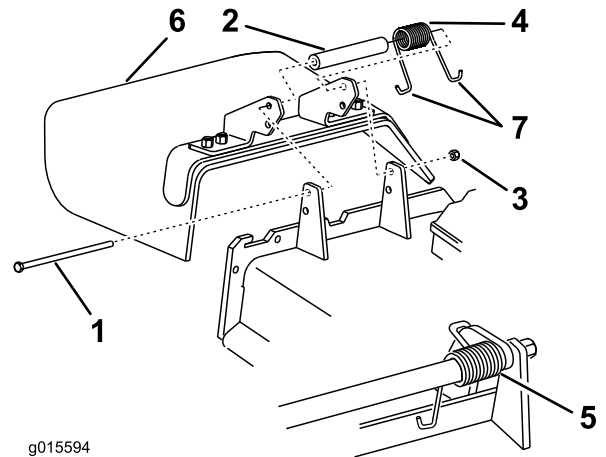

Figure 97
Note: Make sure one **J** end of the spring is installed behind the deck edge before installing the bolt as shown in Figure 97.
3. Install the bolt and nut. Place one **J** hook end of the spring around the grass deflector (Figure 97).
1. Remove the locknut, bolt, spring and spacer holding the deflector to the pivot brackets (Figure 97). Remove the damaged or worn grass deflector.